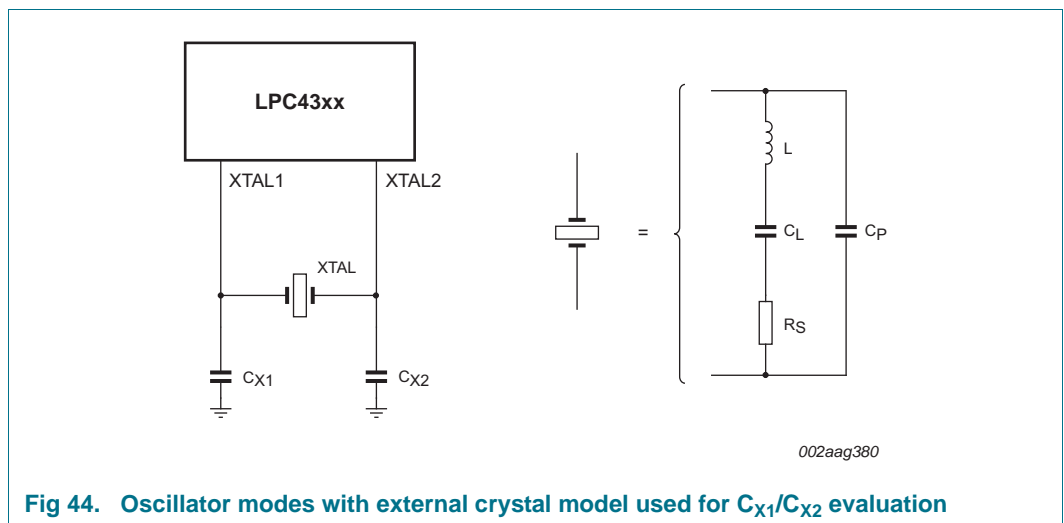

Fig 44. Oscillator modes with external crystal model used for C_{X1}/C_{X2} evaluation
- External components and models used in oscillation mode are shown in Figure 44, and in Table 44 and Table 45. Since the feedback resistance is integrated on chip, only a crystal and the capacitances C_{X1} and C_{X2} need to be connected externally in case of fundamental mode oscillation (L, CL and RS represent the fundamental frequency). Capacitance C_P in Figure 44 represents the parallel package capacitance and must not be larger than 7 pF. Parameters FC, CL, RS and CP are supplied by the crystal manufacturer.